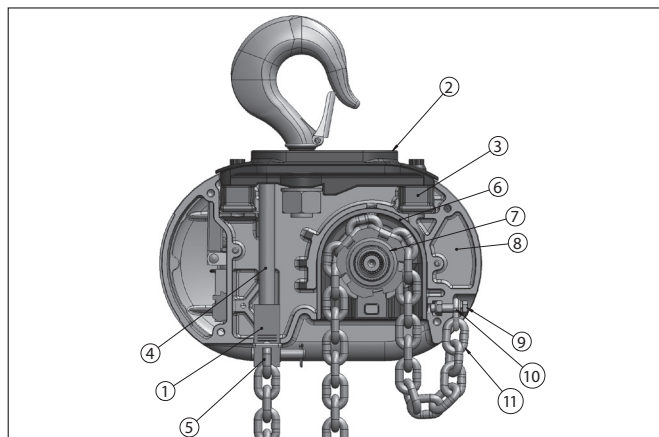

Figure 7. Attaching Load Chain Double Reeved Models
Remove the hook suspension, (2) suspension screws, (1) dead end pin, (1) washer, and (1) cotter pin from the packaging. It should be noted that the suspension includes a dead end bolt and block for supporting the dead end of the load chain as shown in Figure 7.
Place the suspension assembly into the recess on top of the hoist. The dead end block should project through the bottom of the hoist with the pin hole and slot aligned to the underside of the hoist as shown in Figure 7. If these are not aligned as shown, lift the head of the bolt from the hex recess in the adapter and turn the bolt and block assembly and reseal the bolt head to obtain the proper alignment. Do not change the position of the dead end block on the bolt to attain this alignment.
4. Press(UP) control and raise the lower hook until top of hook block is about one foot (305 mm) below the hoist.
7. Press (DOWN) control and cautiously lower hook until lower limit switch stops the downward motion. From 7 to 11 chain links (depending on hoist model) should be between the loose end link and the hoist entry. See Figure 7.